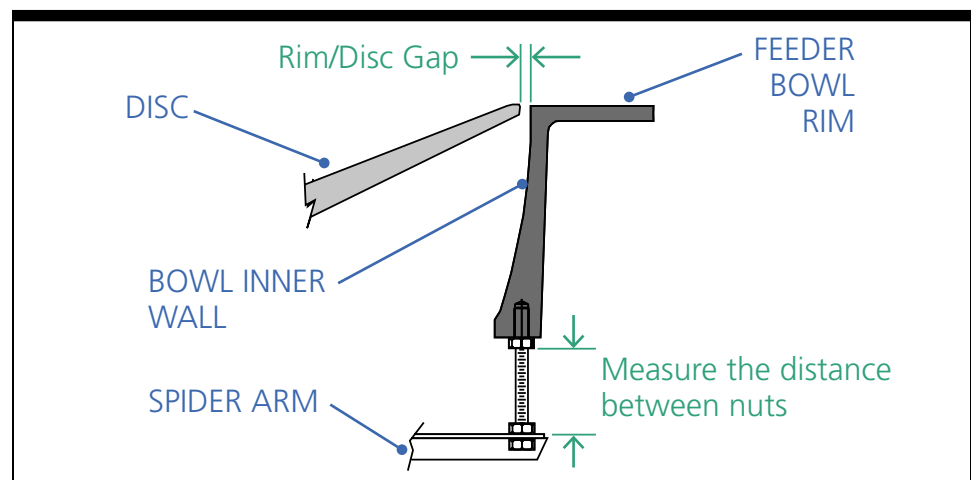

Figure 5-1. Measuring Bowl Gap When Replacing Standard Bowl
- ➡ If machining enlarges the inner diameter of the bowl, you may need to replace the disc with a larger one (custom-sized) from your direct supplier. If you do not obtain a larger disc, the gap between the disc and the inner diameter of the bowl may pinch or snag product (see Figure 5-1).
**Step 1—Measuring and Removing the Bowl.** Measure the height between the bottom of the bowl, and the top of the spider arm (where the threaded rod connects the two parts - see Figure 5-1). Loosen and remove the bottom nut on the spider arm (on each of the eight (8) arms) and remove the bowl - pulling it up and away from the feeder.